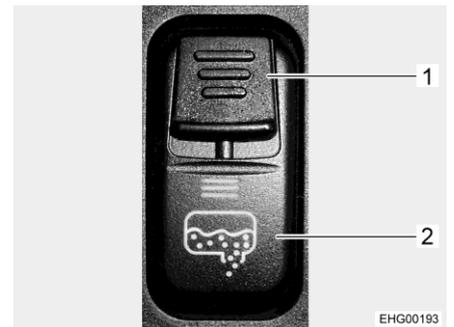

Fig. 157 Rocker switch (drain cock)
The drain cock for the waste water tank is opened and closed using a rocker switch of the switch panel in the driver's cabin. To prevent an unwanted opening of the drain cock, the rocker switch is provided with a safety slide button (Fig. 157,1). The drain pipe with a connection for a waste water hose is located under the vehicle.
- Push the safety slide button (Fig. 157,1) on the rocker switch (Fig. 157,2) downwards and, at the same time, press the lower part of the rocker switch. Doing this, the waste water valve is opened and the waste water tank is emptied. The LED is lit as long as the waste water tap is open.
- Close the drain cock again once all of the waste water has run out. In order to do this, push the operating switch (Fig. 157,1) upwards.